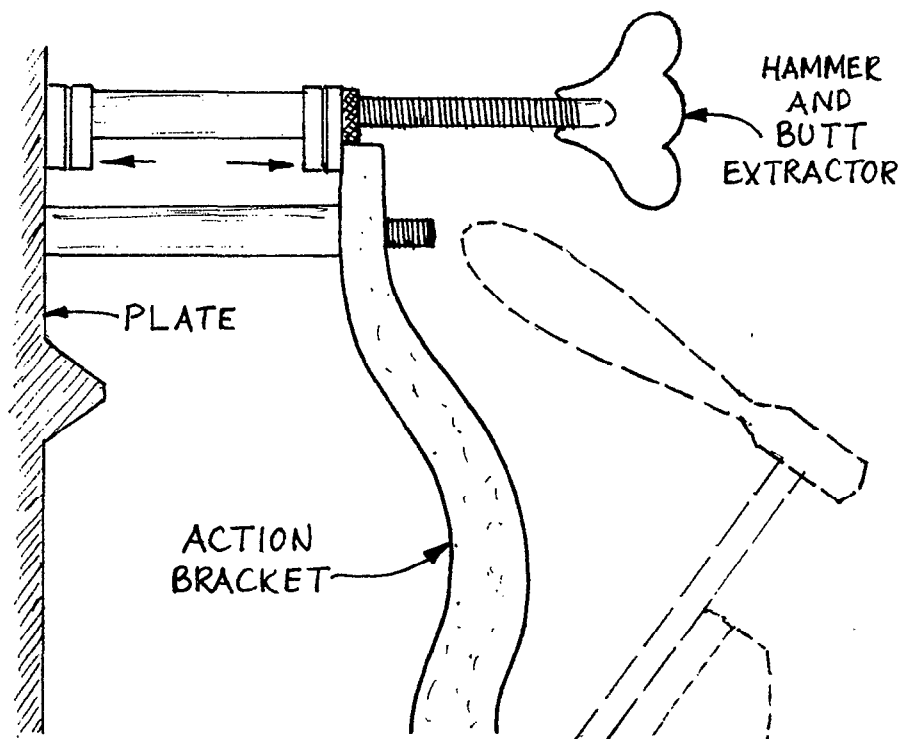

FIGURE 5 JEC
*As the upright action must be held firmly in place to prevent squeaks and to provide solid pedal operation, the brackets are often difficult to remove. To do so, use a hammer and butt extractor. [See Figure 5.] Put the heel against the plate and the fork against the inside of the bracket. Use in the same manner as for hammer heads.*